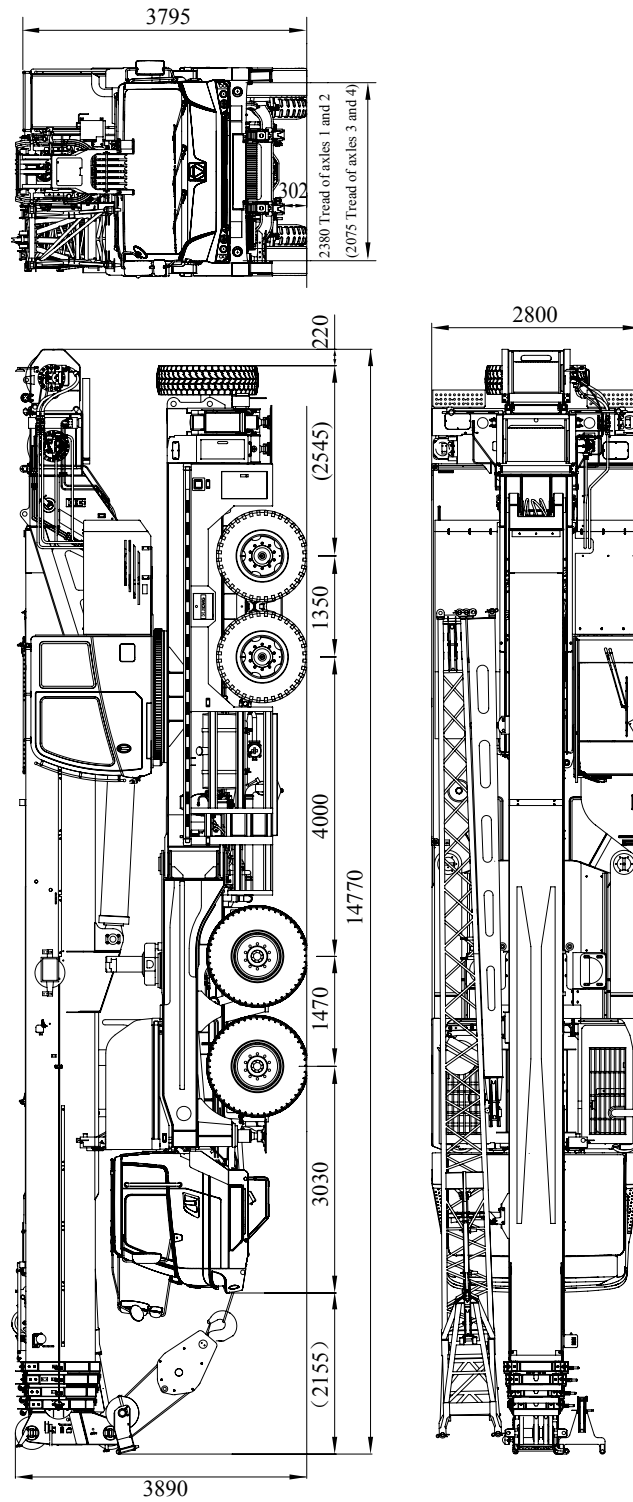

Figure 5-1 XCT80 crane traveling state dimension and parameters
a. Overall size: see Figure 5-1;